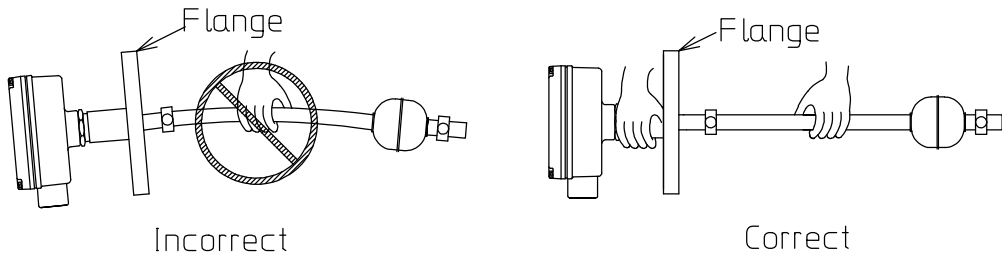

Fig.5
(1) Be careful not to bend the stem when taking out the sensor. (Fig.5)